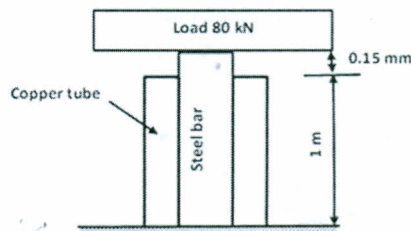

Fig. 2.
Q.3A Draw the stress strain curve for mild steel (MS) subjected to tension and indicate the salient points. 05
Q.4A A mild steel bar of cross-sectional area 490 mm^2 is surrounded by a copper tube of area 210 mm^2 as shown in Fig. 2. When they are placed centrally over a rigid base, it is found that the steel bar is 0.15 mm longer. Over this unit, a rigid plate carrying a load of 80 kN is placed. Find the stresses in each bar if the length of the composite bar is 1 m . $E_s = 200 \text{ GN/m}^2$ and $E_c = 104.7 \text{ GN/m}^2$. 05